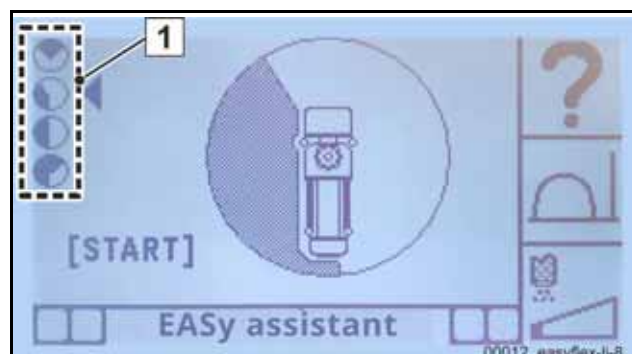
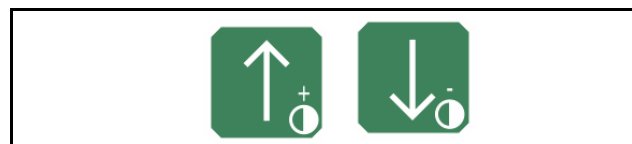

Fig. 427 Example selection: EASy “left”
Fig. 428
The EASy assistant detects the selected position and indicates the next step **(Fig. 427)**:
- Using the arrow keys (9 and 10 **(Fig. 428)**), select one of the symbols (1; **(Fig. 427)**) for the required EASy variant.
For example, the EASy variant "EASy left" is selected in **(Fig. 427)**.